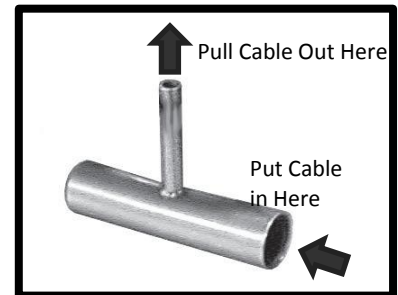

Figure 69: Placing Cable through Handle
1. Pass the empty end of the cable into either side hole on the cable handle and out the center hole (Figure 69).